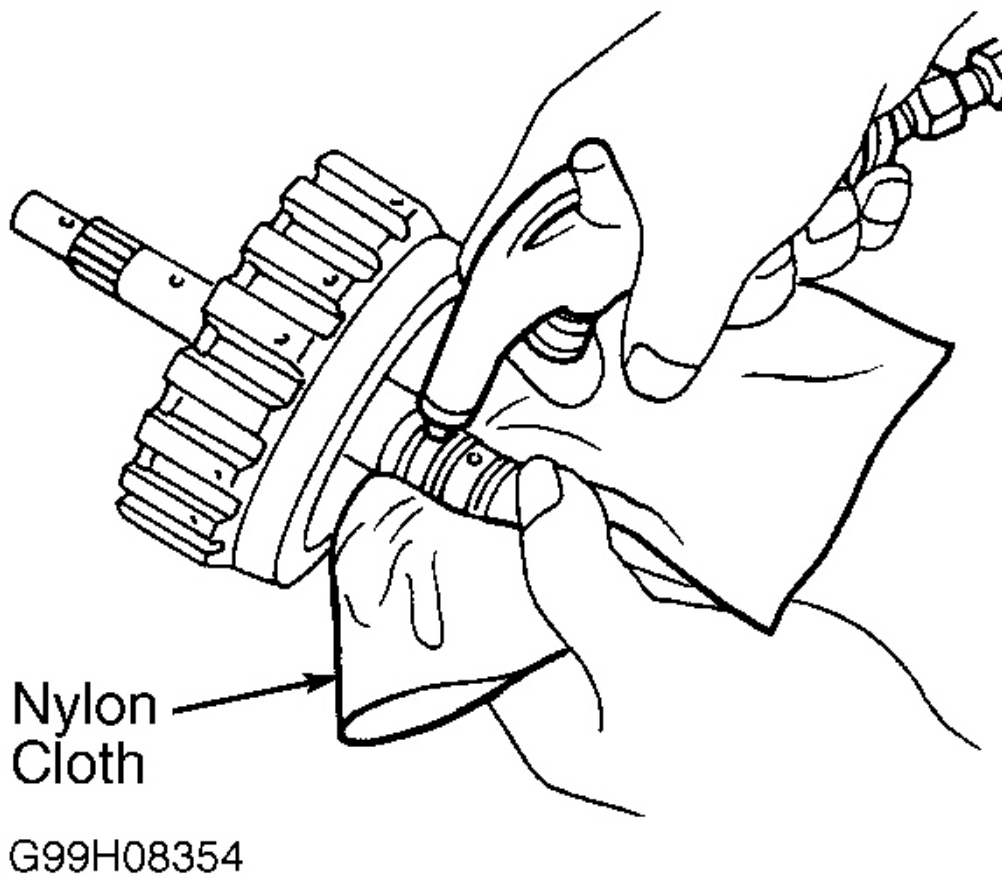

Fig. 33: Checking High Clutch Operation
4. Check high clutch operation. Apply compressed air to oil hole. See **Fig. 33**. Ensure retaining plate moves toward snap ring. If retaining plate does not move as described, "D" ring may be damaged.